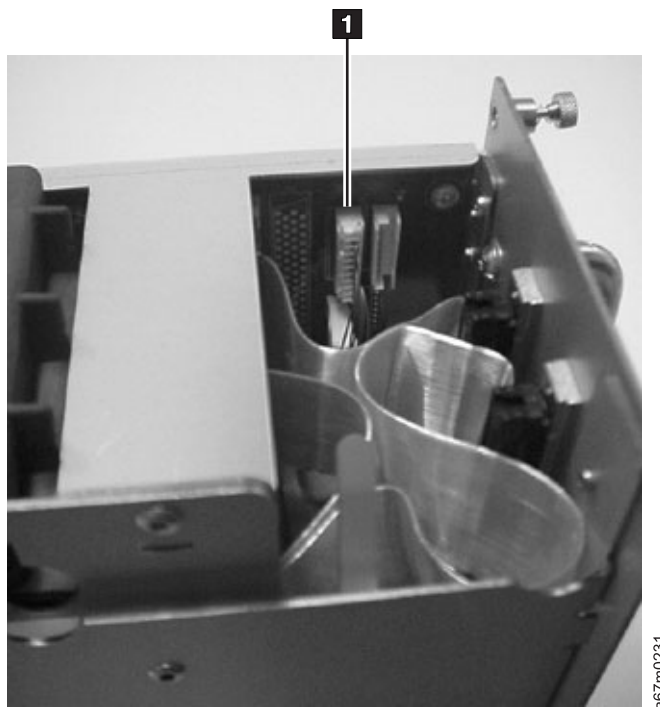

Figure 121. Unplugging the 422 Cable
2. Unplug the RS422 cable from the rear of the drive sled. See **1** in Figure 121 on page 280.